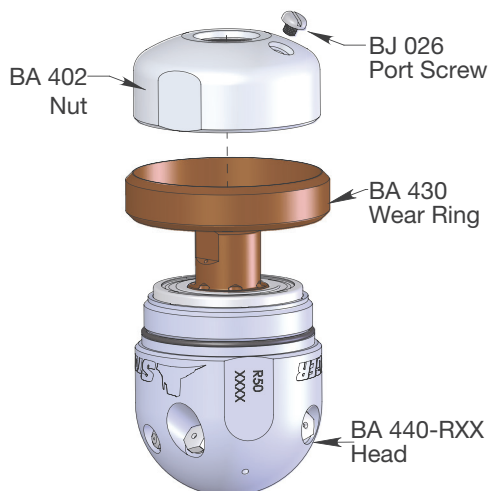

Figure 4: for Steps 1-3
1. Place tool in a vice in orientation shown in Figure 4.